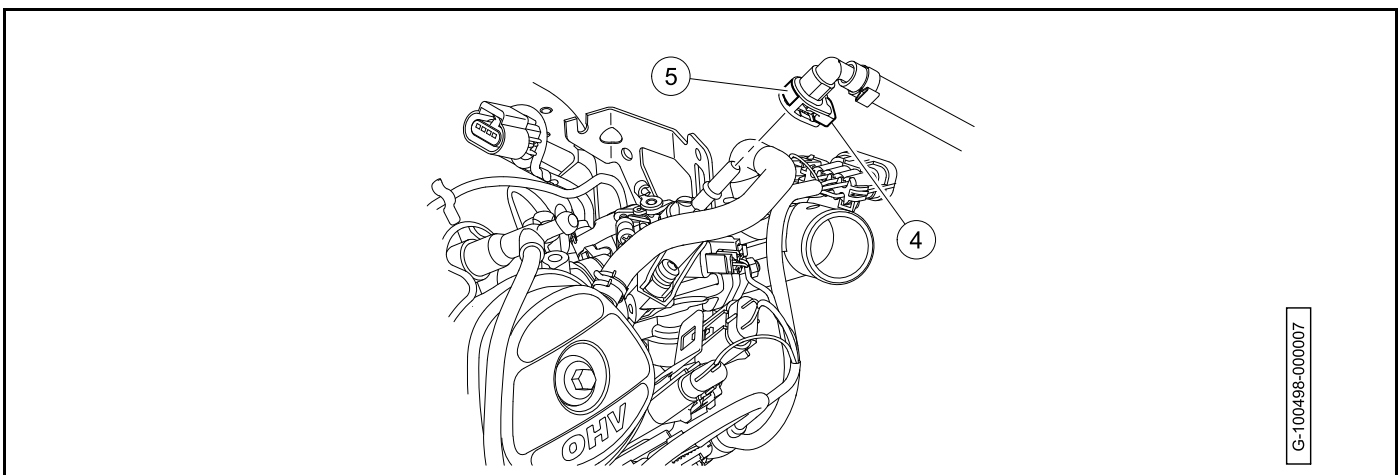

Figure 22-13
- 5.2. Pull out the locking clip (4) (**Figure 22-13, Page 22-14**).